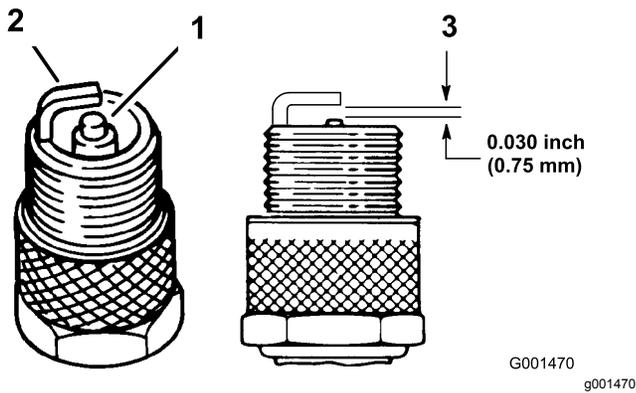

Figure 30
1. Look at the center of the spark plugs (Figure 30).
3. Check the gap between the center electrode and the side electrode (Figure 30).
Note: Bend the side electrode (Figure 30) if the gap is not correct.
3. Connect the wires to the spark plugs (Figure 30).